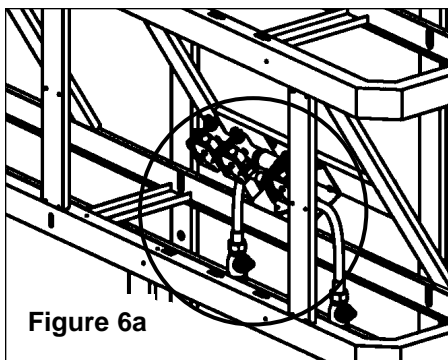

Figure 6a
1. FOR HOT AND COLD SUPPLIES: Connect the flexible hoses installed to the Vernatherm™ Mixing Valve to the hot and cold water supply piping from the wall (see Figure 6a).